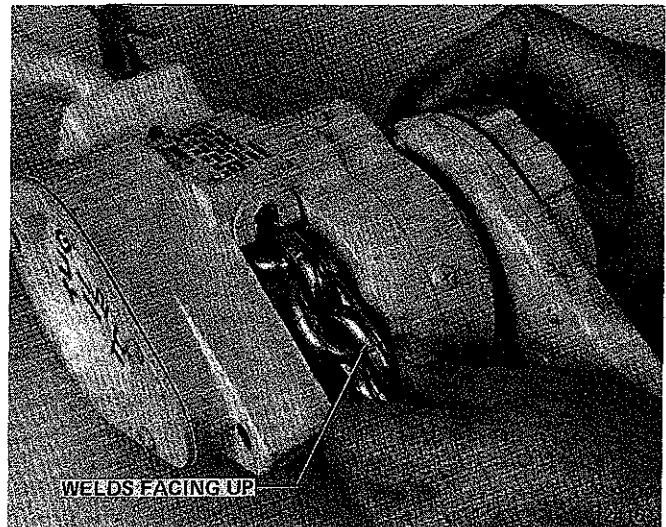

Figure 6-11. Installing Load Chain
a. Lay hoist on work bench in the position shown in Figure 6-11, hand wheel side at your right. Then with control lever in "FREE" position, run chain thru, using hand wheel. Be sure welded side of chain links face up so they do not enter chain pockets in sprocket, and chain is not twisted.